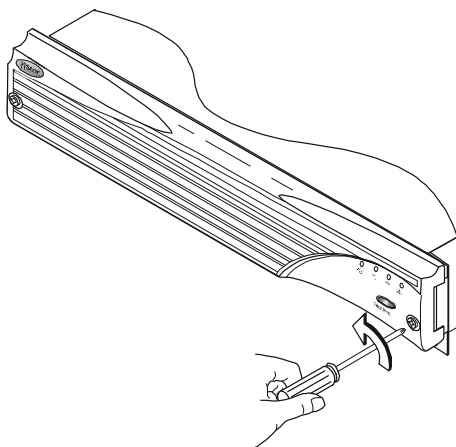

Figure 2-1 Unlocking the Front Bezel
- 2 Unlock the front bezel by turning the screws one-quarter turn to the left. See Figure 2-1.